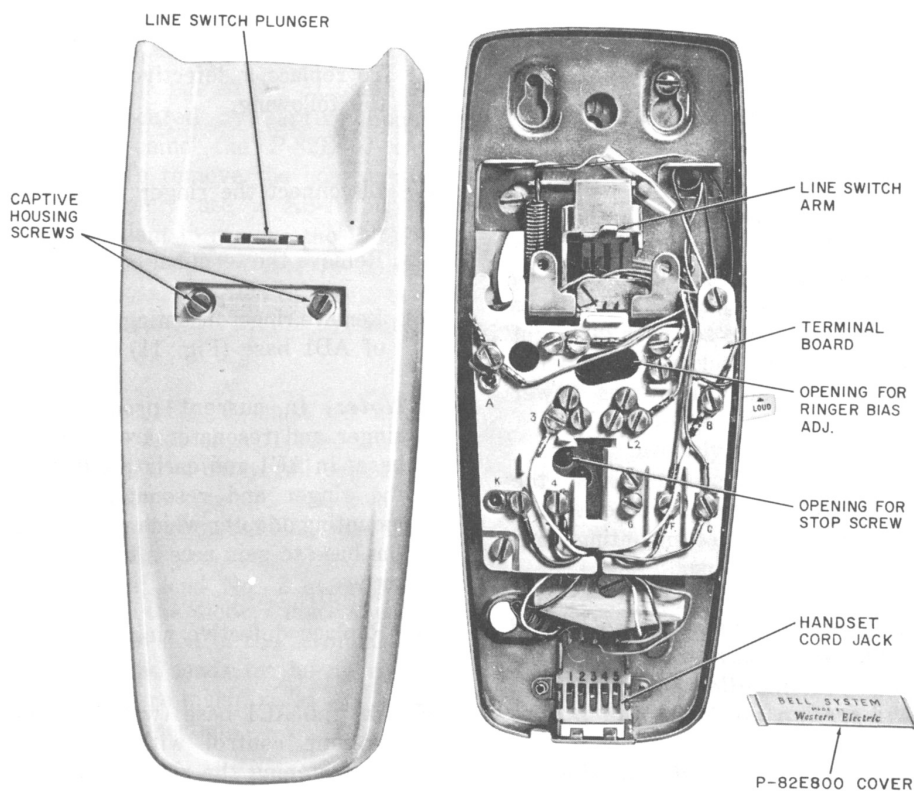

Fig. 6—Interior Of AC1 Telephone Base
(5) The plastic housings of the AC1 and AD1 bases are secured by captive housing screws located behind the P-82E800 cover (Fig. 6 and 7). To remove the housing from either base assembly use a KS-16750 type releaser or equivalent to remove the P-82E800 cover (Fig. 8). **Be careful not to damage the housing.** Loosen the two captive screws, which are now exposed, and lift the housing off.